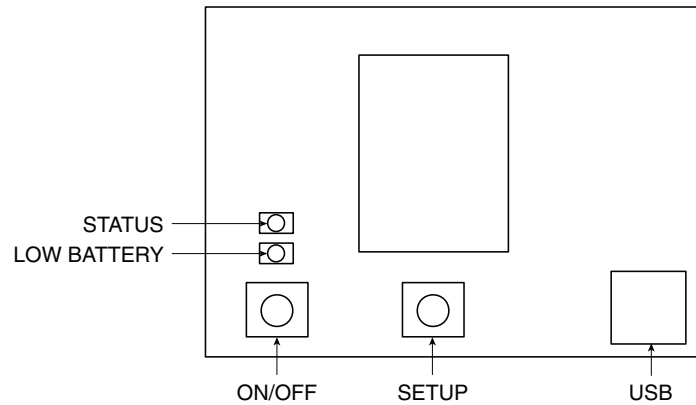

Figure 16. Main Transmitter Board
6.1.4 Indicator Lights (See Figure 16)
The green indicator light marked "STATUS" (Figure 16) will blink every time the unit sends data to the receiving unit. Example: If you selected a 5 sec sample rate the green STATUS led will blink one time every 5 seconds.
The red indicator light marked "LOW BATTERY" (Figure 16) will turn on when the battery reaches a level at or below the power level required for normal operation. When this indicator turns on it's time to install a fresh battery in your unit. For procedures on how to change your battery see Section 6.3.